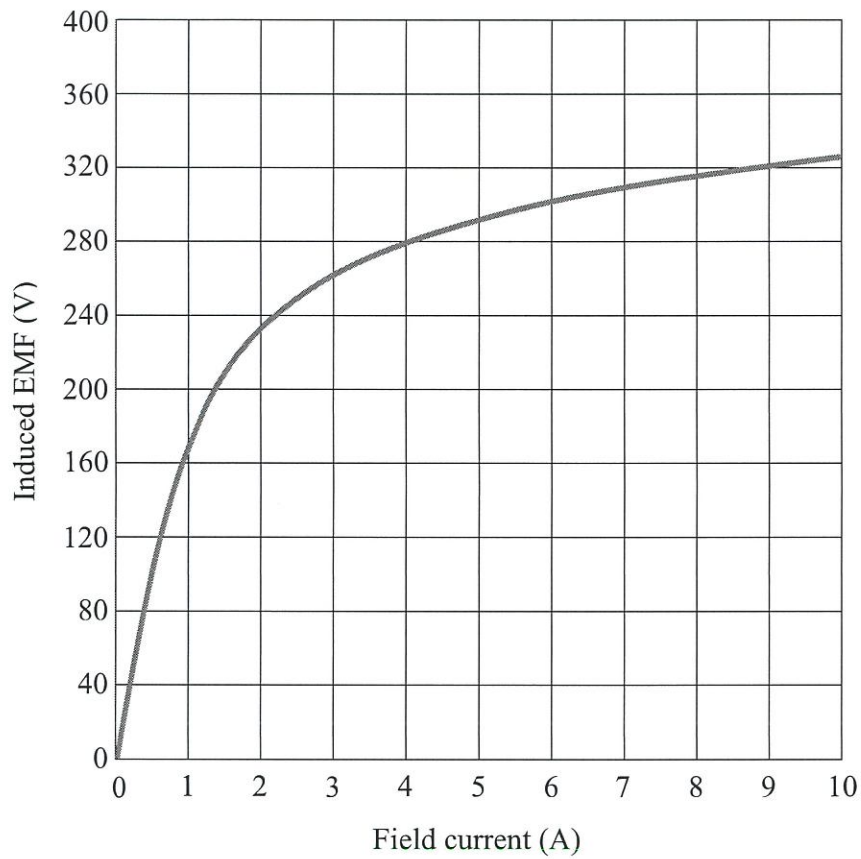

Figure Q4(b)
- Q4** (a) When a DC motor is running, sparks may generally be seen where the carbon brushes contact the commutator segments. Explain why this sparking occurs. Identify **ONE** (1) environment where a sparking motor would be unsafe to use. (3 marks)
- The demagnetising MMF due to armature reaction is 20% of the armature current. Its magnetisation curve is shown in **Figure Q4(b)**.